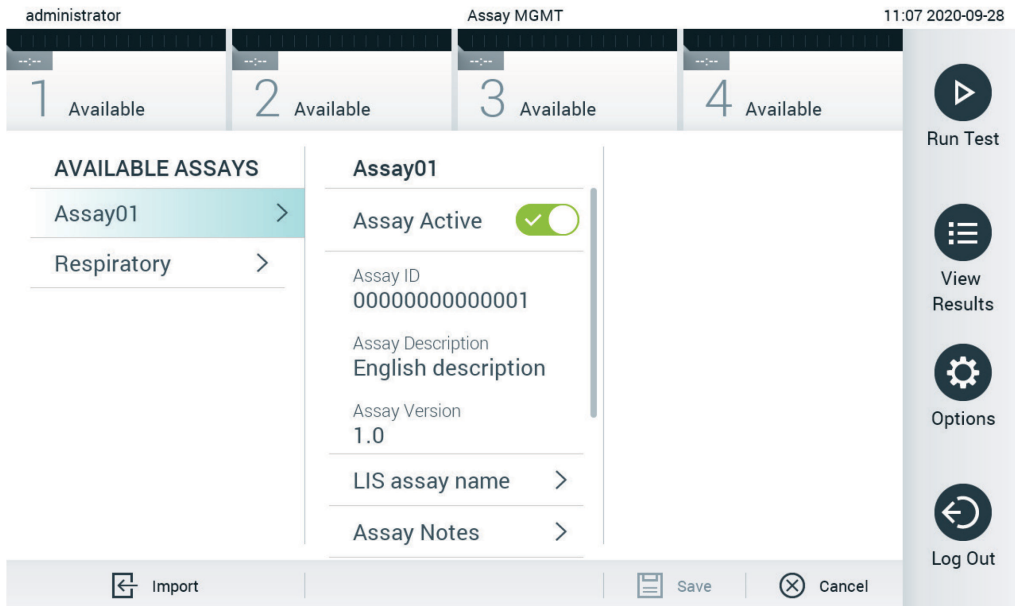

Figure 61. Activating the assay.
7. The assay becomes active by selecting Assay Active (Figure 61, next page).